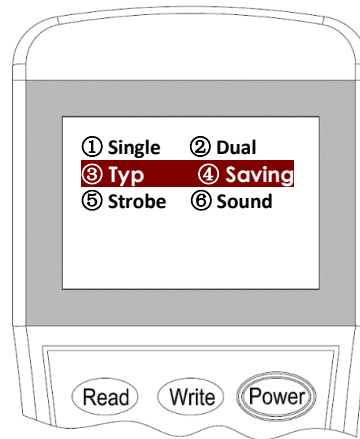

Figure 12
3. Input the **“3”** for **Typical** mode or **“4”** for **Saving** mode then press **“Write”** to change the setting into the desire mode (Figure 12).